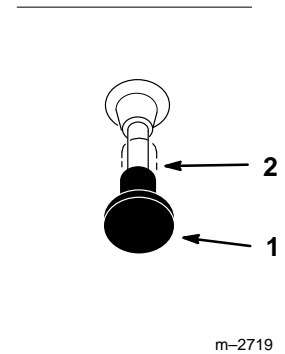

Figure 4
7. After the engine starts, gradually move the choke to “OFF” (Fig. 4). If the engine stalls or hesitates, move the choke back to “ON” for a few seconds. Then move the throttle lever to desired setting. Repeat this as required.